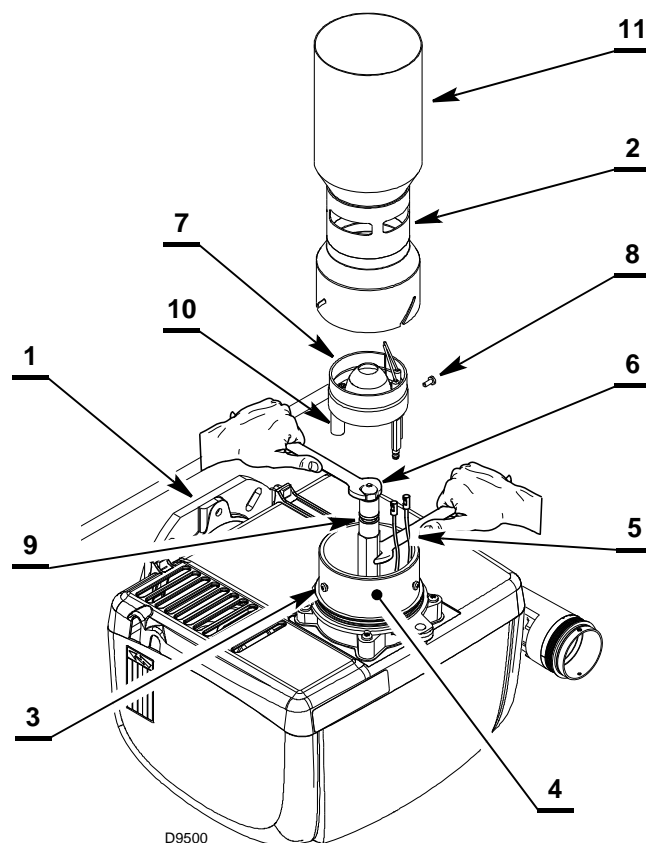

Fig. 25
- hook the burner onto flange 1) (Fig. 25).
- hook the burner to the flange 1) (Fig. 25) and loosen the screws 3);
HOLD THE NOZZLE HOLDER WITH A SPANNER (Fig. 25).
- Fit the blast tube 2) (Fig. 25) and fix it with the screw 3) with a tightening torque not exceeding 0.8 Nm, being careful to adjust the opening of slots as indicated in Tab. A page 17 (use the template supplied) (Fig. 27).